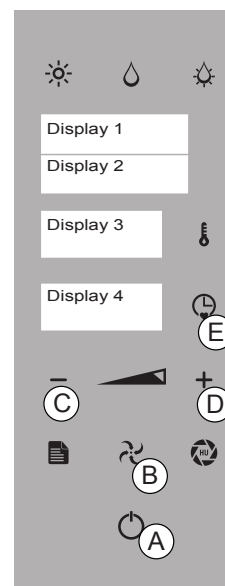

Fig. 7
1. Push the "ENTER" key and push at the same time the "ENTER", "FAN" and "MINUS" keys (Fig. 7/A+B+C).
2. Push the "PLUS" key (Fig. 7/D) and the "ENTER" key to select the "PARAMETERS" function (Fig. 7/A –Display 1).
3. Push several times the "PLUS" key to select the function "ASPIRATION HOOD" (P11 – Fig. 7/D).
4. Push the "TIME" key (Fig. 7/E) and with the "PLUS" key set up the figure on "1".
5. To save the parameter, push the "TIME" key (Fig. 7/E).
Keep pushed two times the "ENTER" key (Fig. 7/A) to exit the functions and to have the "stand by" mode.